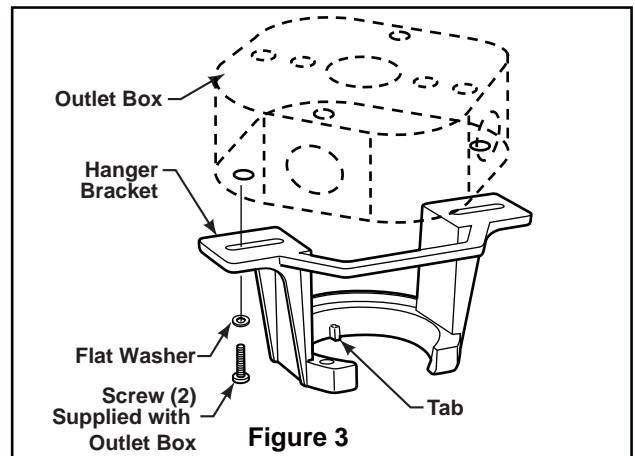

Figure 3
- 1. Securely attach the hanger bracket to the outlet box (not included) using the outlet box screws and washers supplied with the outlet box. (Figure 3)